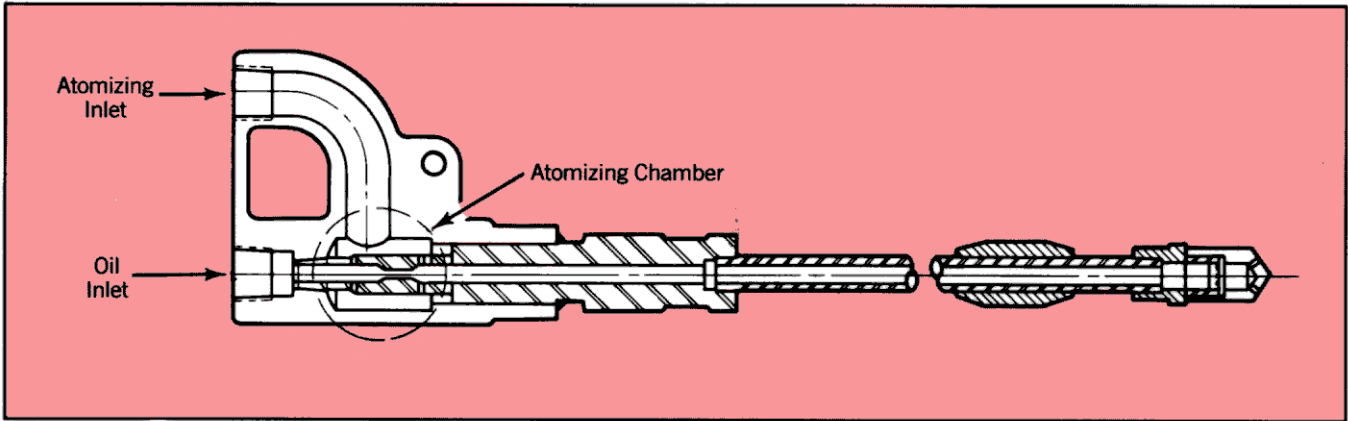

Figure 2 Typical I Jet assembly.
2. Upgrade existing Y or T jet atomizers to new I jet atomizers. The I jet atomizer (Figure 2) is less prone to pluggage.
2. Upgrade existing Y or T jet atomizers to I jet atomizers (Figure 2).
4. Upgrade existing Y or T jet atomizers to I jet atomizers (Figure 2).